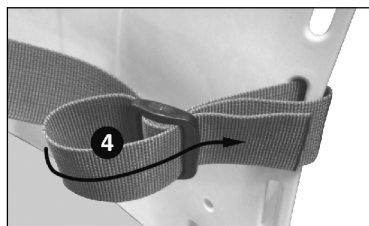

Figure 21
4. If the end of the strap is too long, flip it back to loop around the 3-bar slide as shown in Fig. 21.